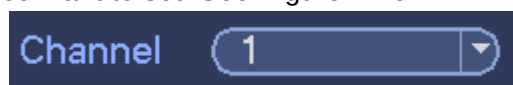

Figure 4-29
Step 1 Select a channel you want to set. See Figure 4-29.